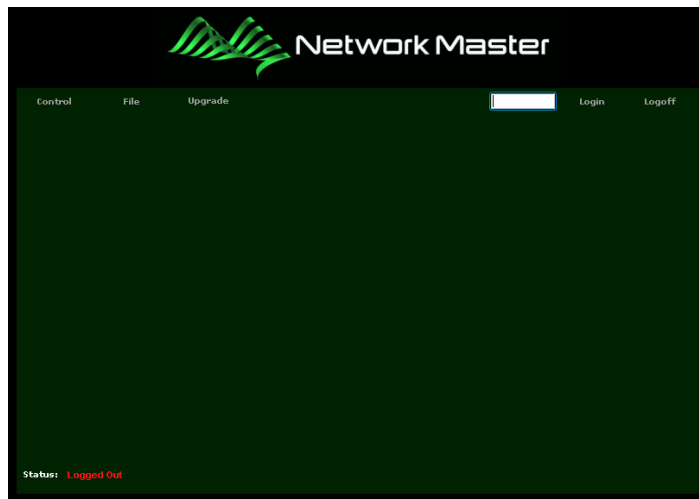

Figure B.2-1 Remote Client (before Login)
3. If network communications can be properly established between the PC and the MU909060, the screen shown in Figure B.2-1 will be displayed.